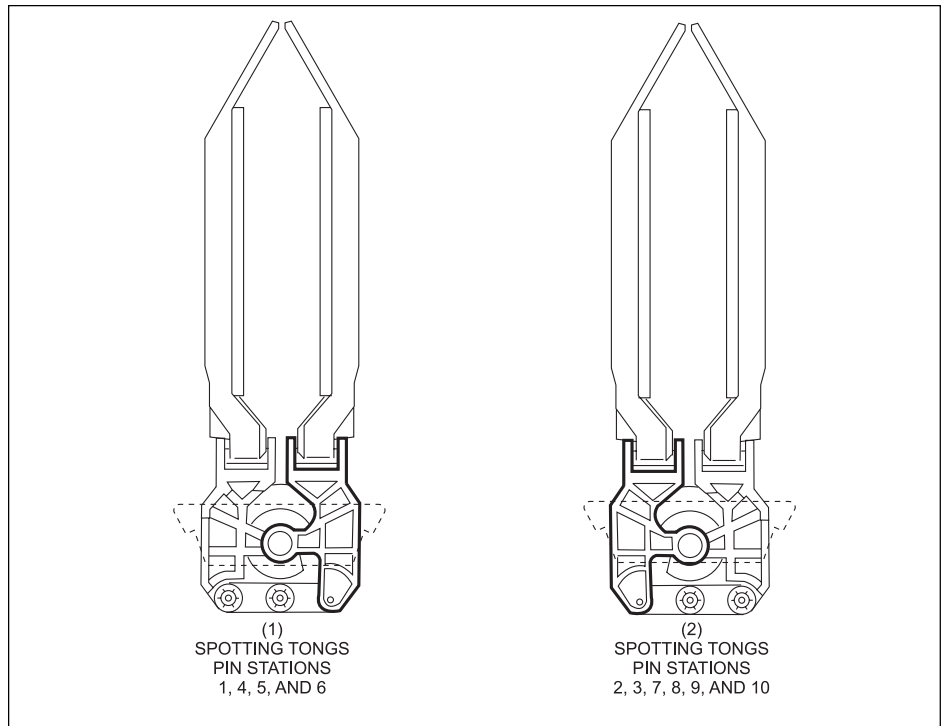

Figure 8-12. Spotting Tongs.
- Select the correct type depending on the position of the tongs in the table. Refer to *Figure 8-12*.